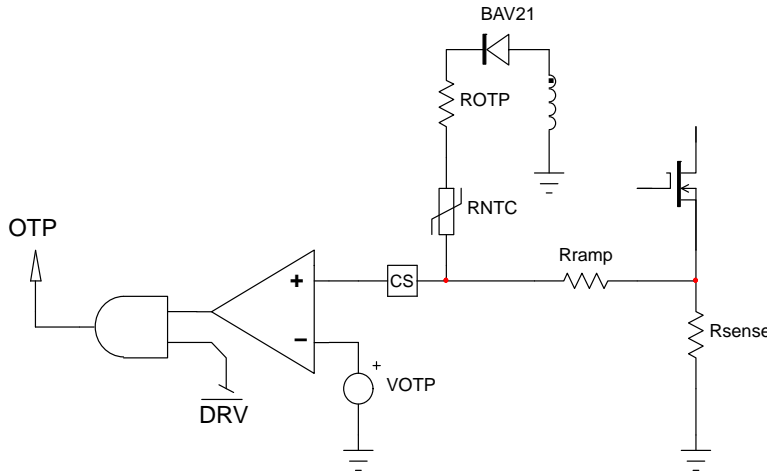

Figure 42. The NTC lifts the CS pin voltage during the off-time. If the voltage exceeds 1 V, all pulses stop
It is possible to trip a second protection via the CS pin. If you connect a NTC resistor from the auxiliary winding through a fast diode and a series resistance, it is possible to latch off the part (or make it auto-recover depending on the selected option) at the desired temperature. Figure 42 shows the adopted principle. The auxiliary winding jumps to the output voltage reflected to the primary side during t_{off} and described by (6). If the loop is well designed, i.e. with sufficient loop gain in dc, the precision of this available voltage can be very good. As this voltage is available during the off-time, we can use it to build a temperature-dependent voltage on the CS pin and compare the value to an internal precise 1-V reference. According to Figure 42 labels, the voltage at the CS pin during t_{off} equals